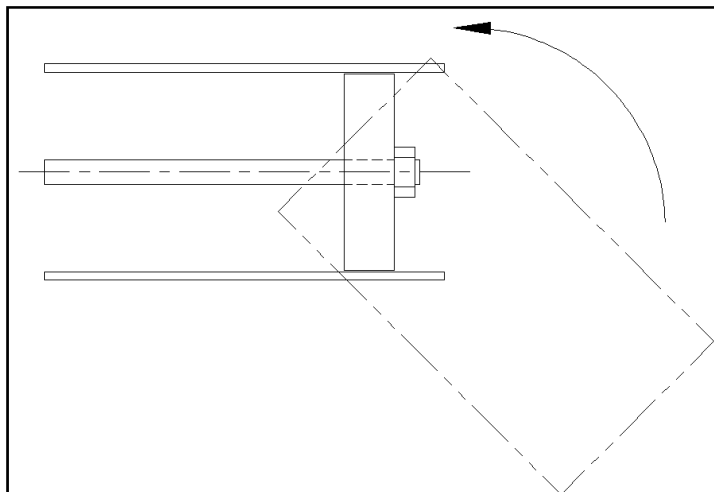

Figure 6—Assembling Cylinder
6. Carefully slide the cylinder tube (C13) over the piston (C10). The piston seal (C11) must be well lubricated. Start the cylinder tube (C13) at a 45° angle and rotate it into position onto the piston (C10). See Figure 6.